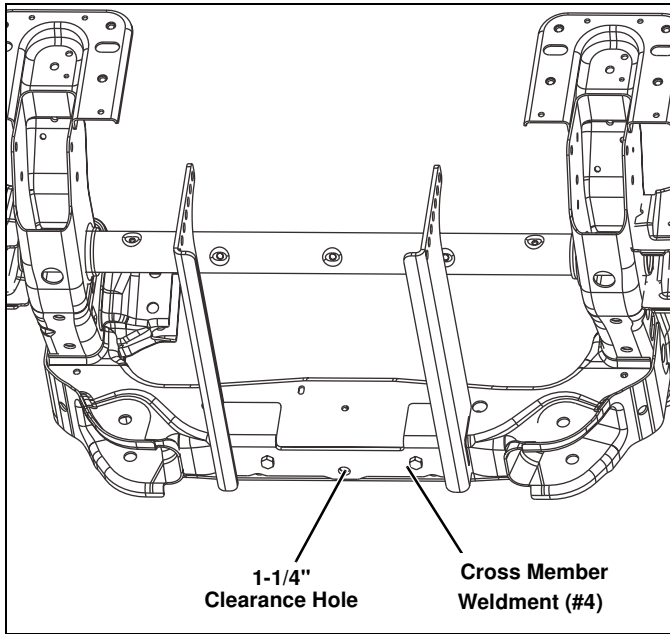

Figure 2
4. Center punch and drill a 1-1/4" clearance hole in the back splash guard directly above the rear hole of the Cross Member Weldment (#4). (See Figure 2.)